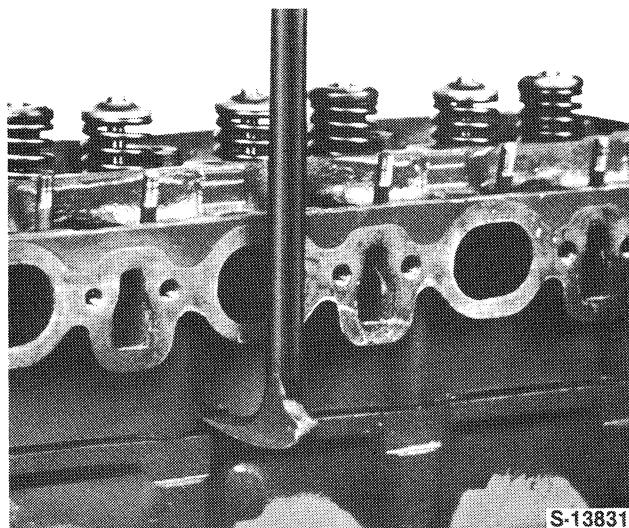

Figure 6
19. Lift the cylinder head from the block. If necessary pry the head off, using the pads provided, and taking care not to damage the cylinder head or block faces, Figure 6.